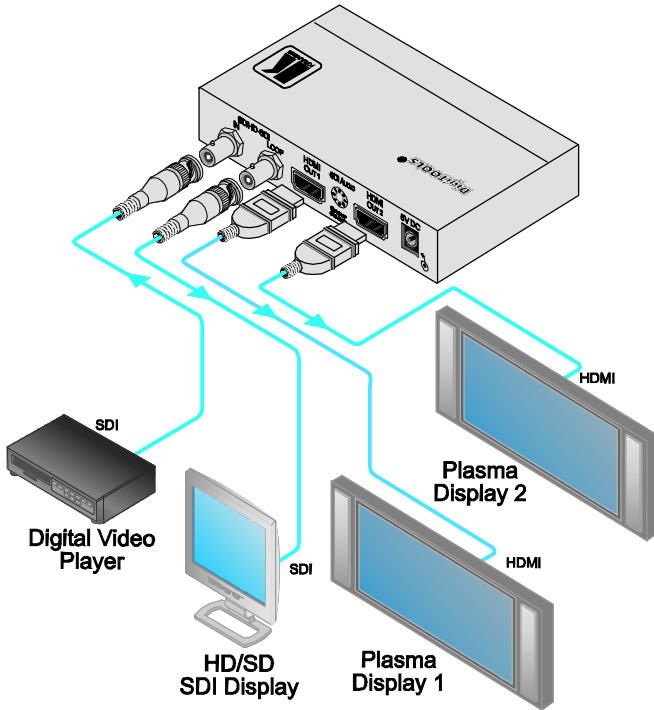

Figure 2: Connecting the FC-332 SD/HD-SDI to HDMI Converter/DA
To connect the **FC-332**, as the example in *Figure 2* illustrates, do the following¹:
6. Connect the 5V DC power adapter to the power socket and connect the adapter to the mains electricity (not illustrated in *Figure 2*).